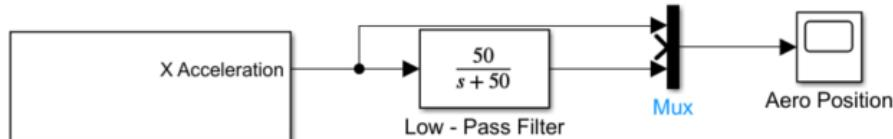

Figure 2: X-axis acceleration signal with a low-pass filter
6. Add a Mux block as shown in Figure 2 so that the filtered signal can be compared to the unfiltered sensor output.